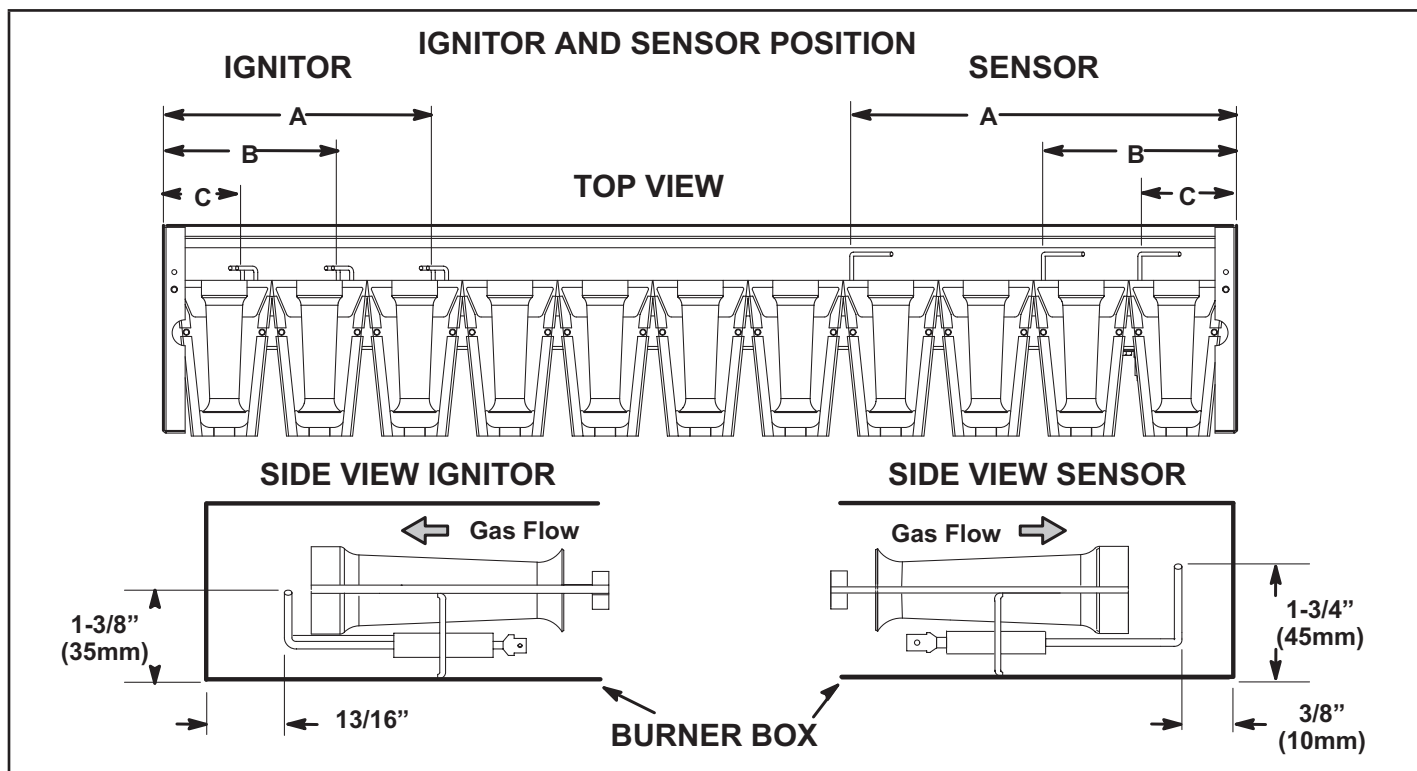

FIGURE 28
- 5 - Check the alignment of the ignitor and the sensor as shown in FIGURE 28 and TABLE 10.